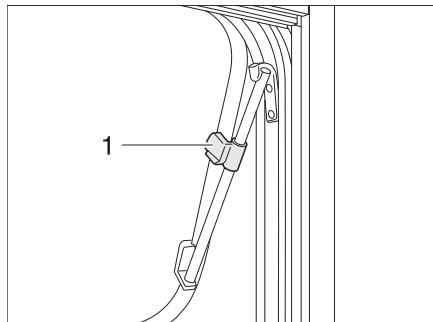

Fig. 66 Hinged window with rotary hinges, open
- Open the hinged window until the required position has been reached and secure in position using the knurled knob (Fig. 66,1).
- Turn the knurled knob (Fig. 66,1) until the latch is released.